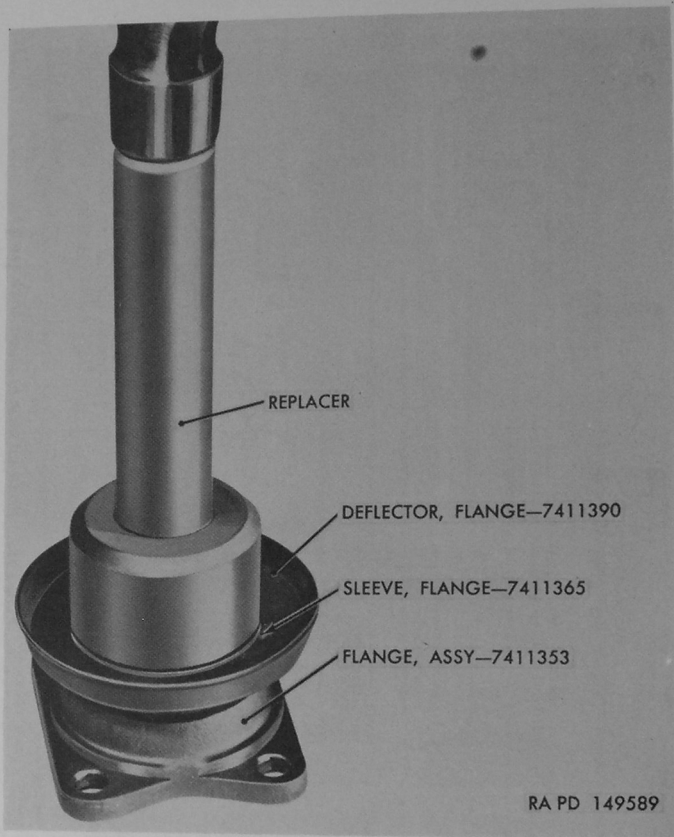
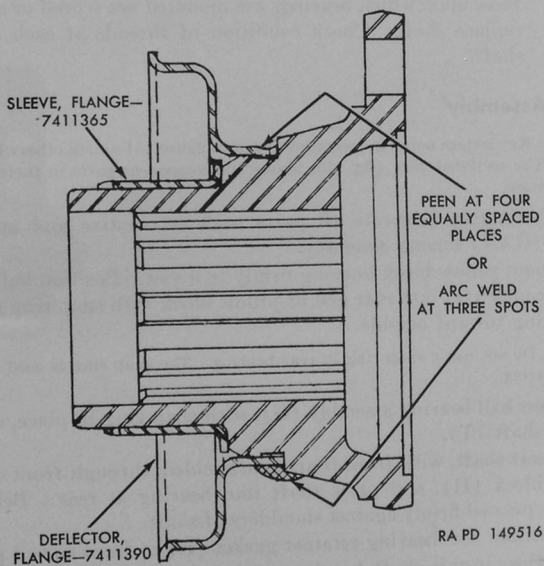

Figure 156. Installing flange oil seal sleeve with replacer 41-R-2395-528.
Figure 157. Sectional view of flange assembly.
- (a) *Oil seal sleeve replacement.*—Use ball peen hammer, and tap entire circumference of outer surface of flange sleeve (fig. 157). Peening of this surface will cause metal in sleeve to stretch until sleeve can be removed from flange. Install sleeve on flange using replacer 41-R-2395-528 (fig. 156).
- (b) *Deflector replacement.*—Deflector is pressed on flange as shown in figure 157. The deflector is either spot welded or peened in three or four places to flange. Remove old deflector. Install new deflector in place on flange. Peen or spot weld as shown in figure 157.